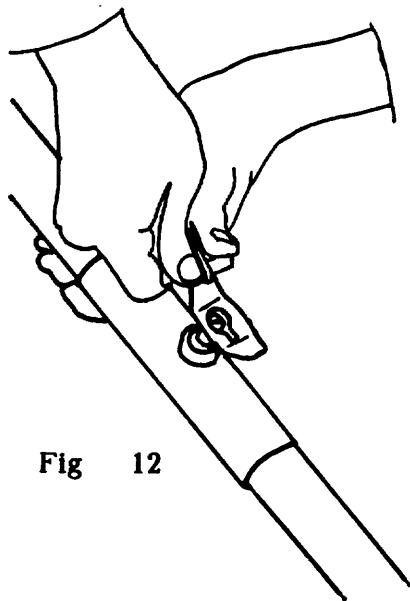

Fig 12
8) Attach the rear kingpost tang to the rearward most bolt on the keel. (Fig 12) Be sure that the tang slides all the way forward on the bolt, and be sure to attach the safety.